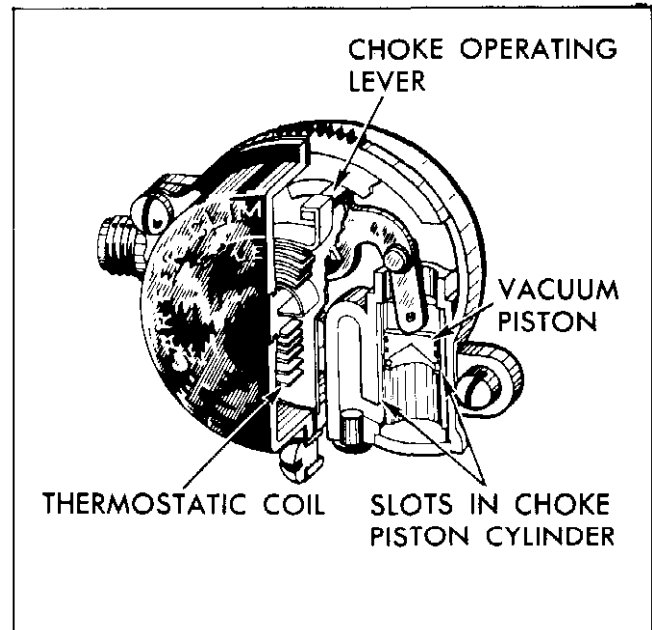

Fig. 6B-8 Choke Housing Detail
When the engine starts, slots located in the sides of the choke piston cylinder (Fig. 6B-8) are uncovered allowing intake manifold vacuum to draw warm air from the hot air tube, located in the exhaust cross-over passage of the intake manifold, through the Climatic (R) control housing. The flow of warm air in turn heats the thermostatic coil and causes it to lose some of its tension. The thermostatic coil loses its tension gradually until the choke valve reaches wide open position.